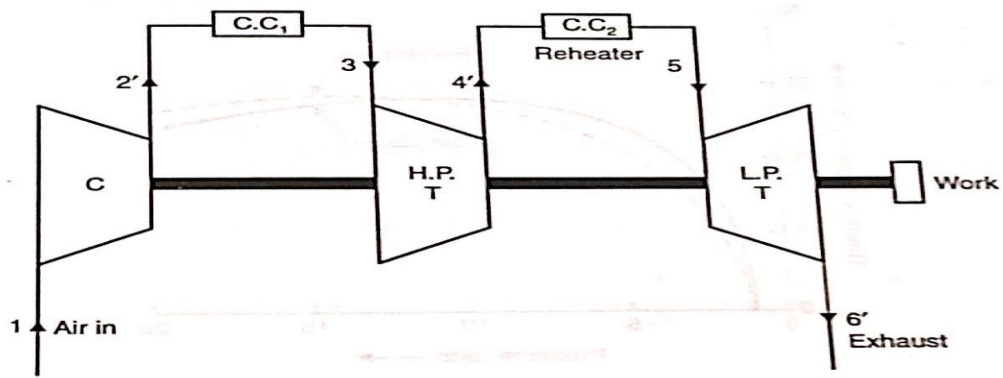

Fig. 5.7. Gas turbine with reheat.
**2. Reheating.** The output of a gas turbine can be amply improved by expanding the gases in two stages with a reheater between the two as shown in Fig. 5.7. The H.P. turbine drives the compressor and the L.P. turbine provides the useful power output. The corresponding T-s diagram is shown in Fig. 5.8 (a). The line 4'-L' represents the expansion in the L.P. turbine if reheating is not employed.